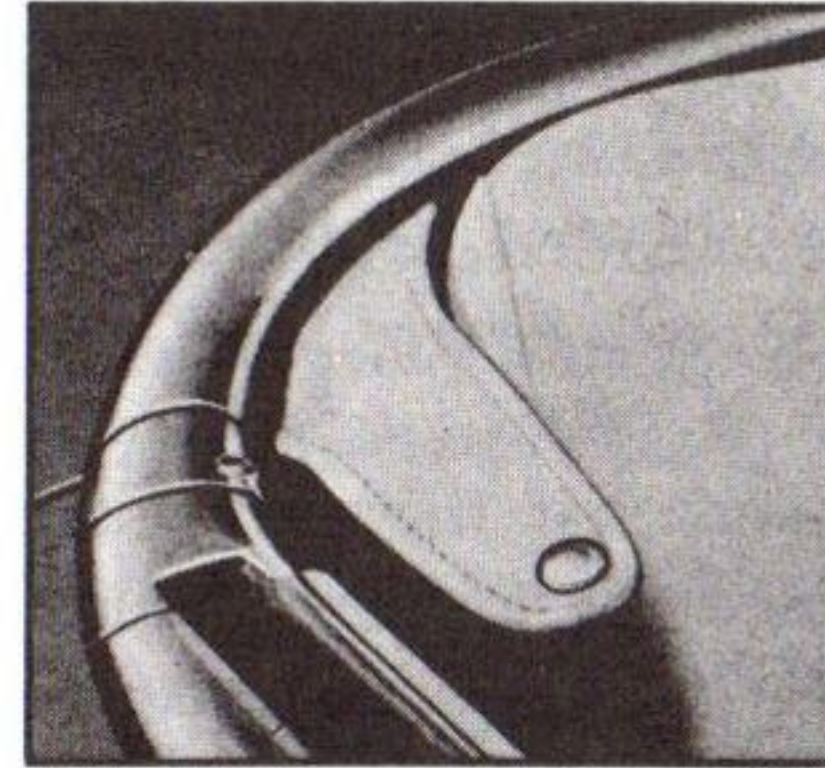

Fig. 74—Top Compartment End Strap
1. Unsnap the top compartment end straps at the outer edge of each seat back (fig. 74).
6. Snap the top compartment end straps (fig. 74).